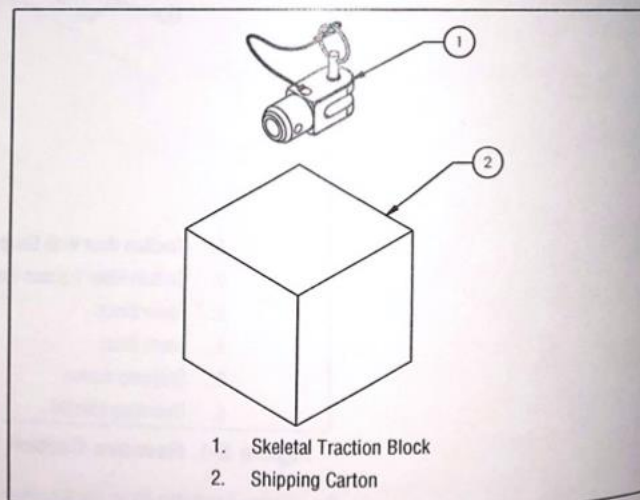

Figure 2-3. Skeletal Traction Block (Typical)
12. Carefully remove Skeletal Traction Block (Item 1, Figure 2-3) and place in Accessory Cart.
13. Discard shipping carton (Item 2, Figure 2-3)